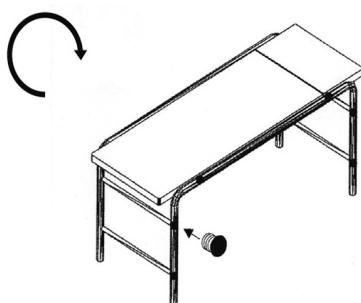

Fig. 4
- Inser with a hammer 12 screw covers (Fig. 4).